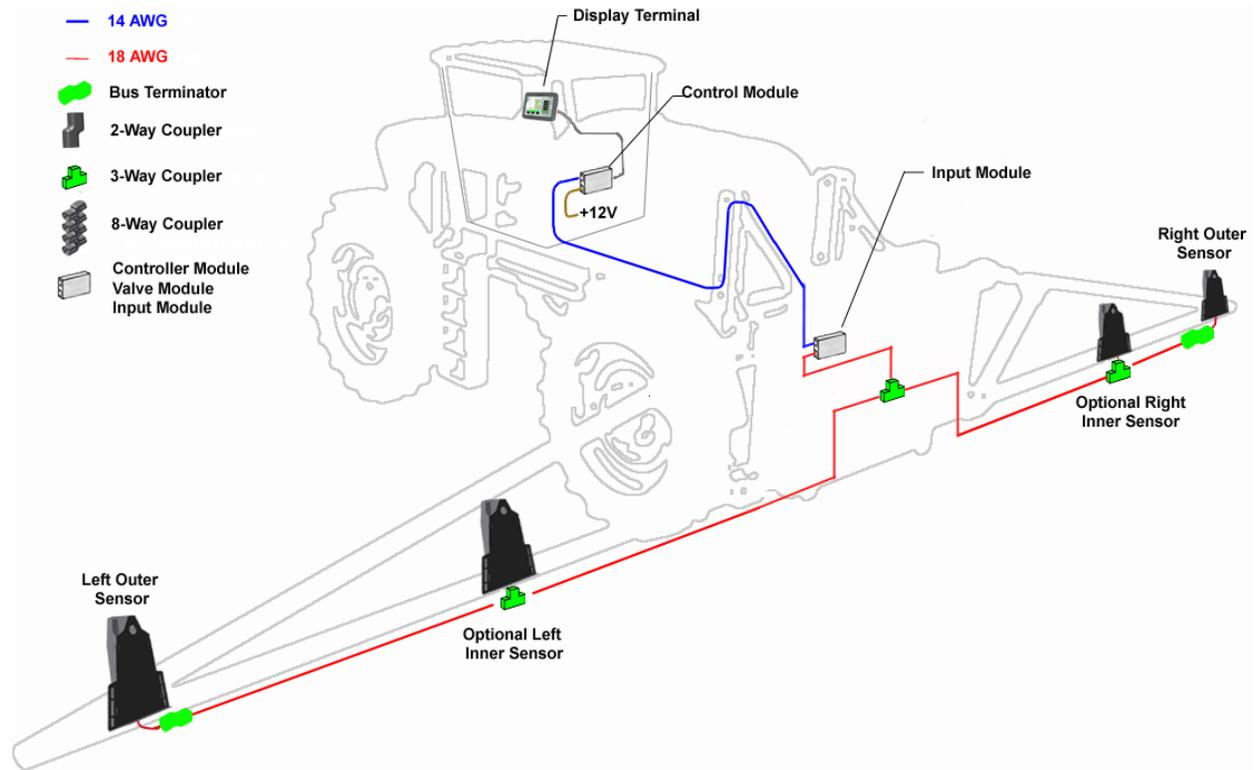
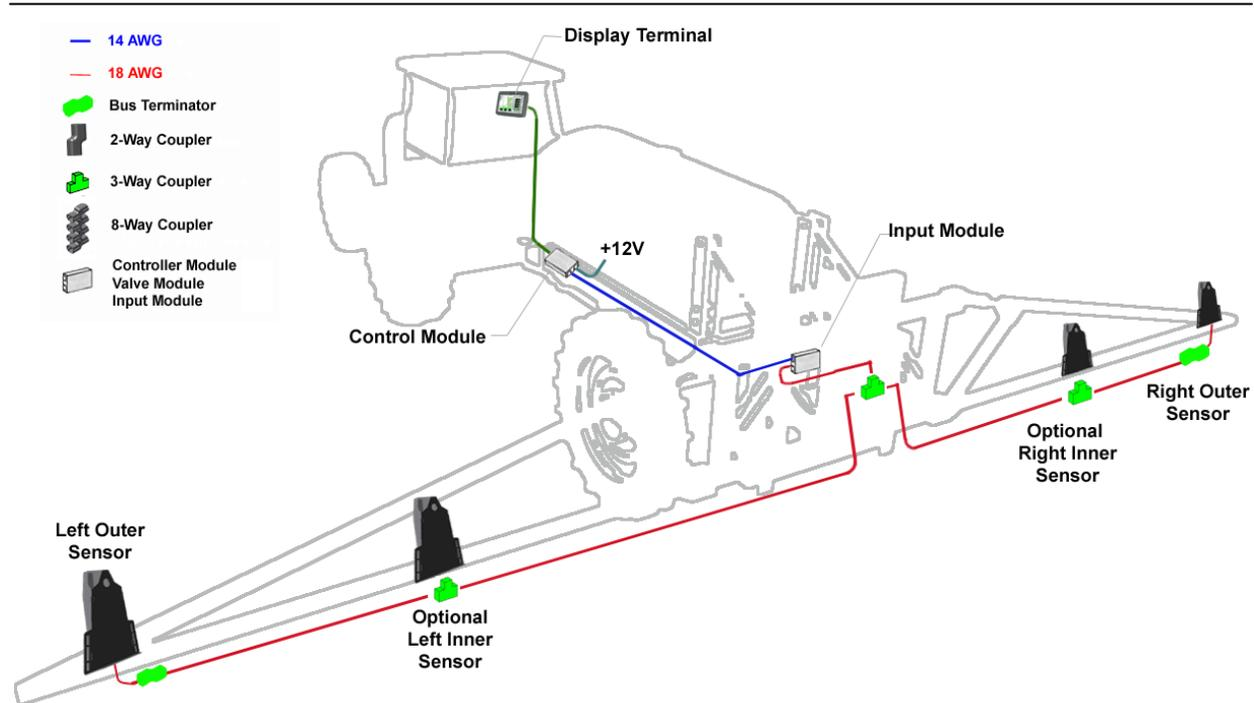
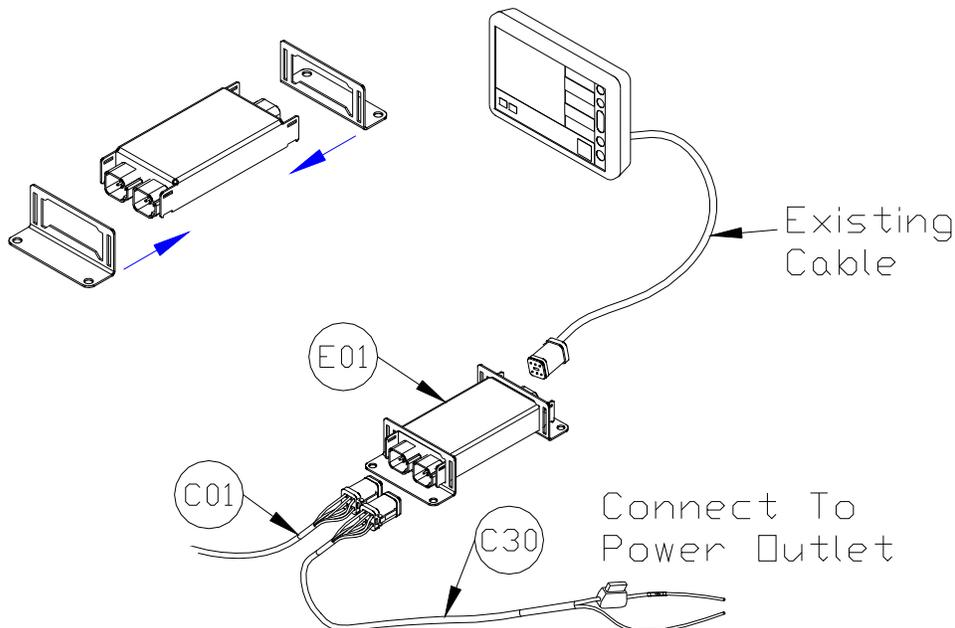
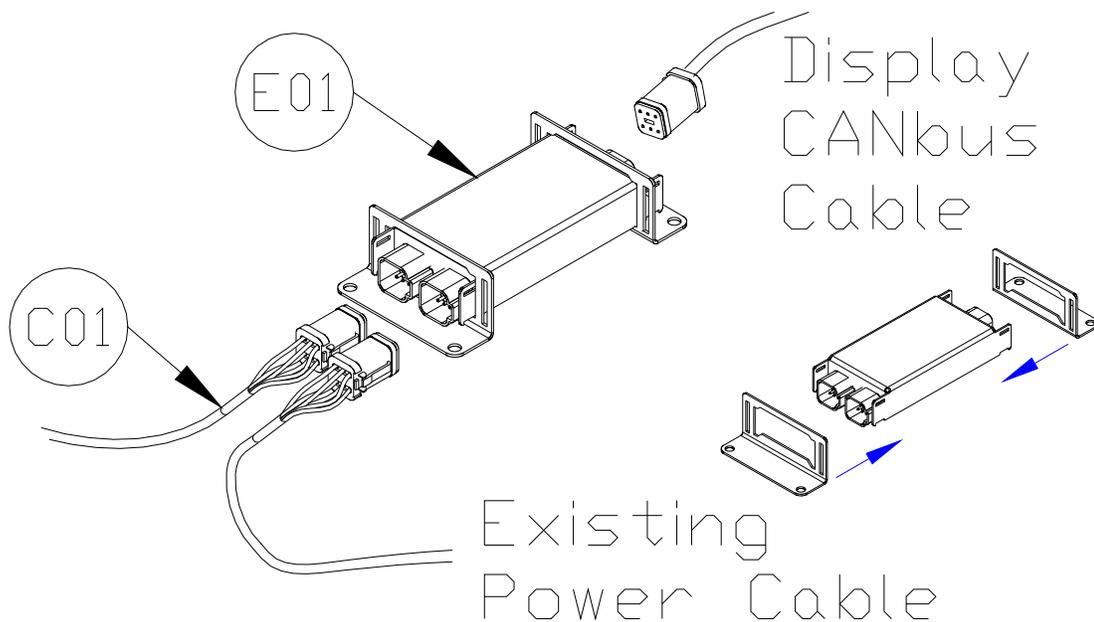

Figure 1: General UC5 System Layout (Self Propel Type)
Figure 2: General UC5 System Layout (Pull Type)
Figure 9: Control Module Mounting (Self Propel Sprayer)
Figure 10: Control Module Mounting (Pull Type Sprayer)
Figure 1 and Figure 2 illustrate the general layout of the UC5 system components:
1. Refer to Figure 1 and Figure 9.
Cable C30 is shown in Figure 9 for informational purposes only. The battery cable is ordered separately from this kit and may differ from the diagram above.
1. Refer to Figure 2 and Figure 10.